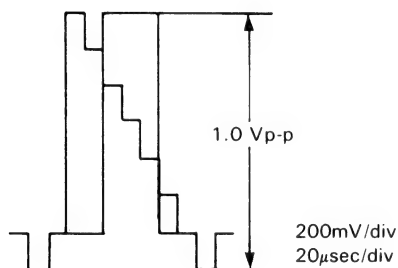

Figure 2-6.
2. Feed the colour bar signal (stair-case waveform) to the video input terminal. Observing the voltage across the terminal resistor of the video output terminal on the oscilloscope screen, adjust R201 (EE level control) to obtain the value indicated in Fig. 2-6.